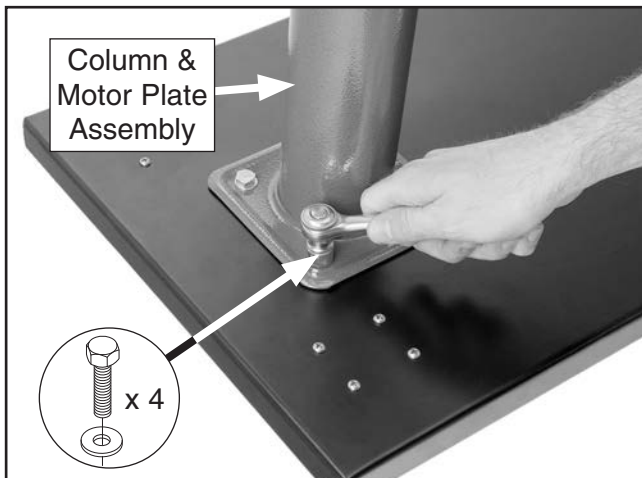

Figure 7. Attaching column and motor plate assembly.
2. Attach column and motor plate assembly to other side of base plate with (4) M8-1.25 x 15 hex bolts and 8mm flat washers (see **Figure 7**).